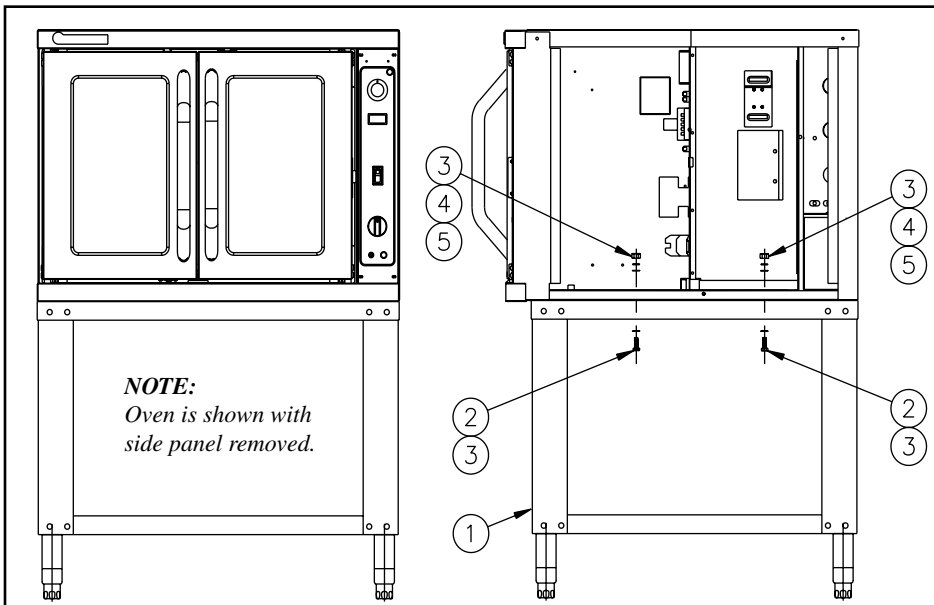

FIG. 7 2600PHE Mounting Assembly
4. Fasten the oven to the stand with four (#2) screws, eight (#3) washers, four (#4) lock washers and four (#5) nuts, as shown in figure 7.